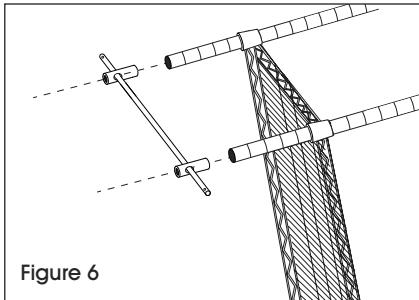

Figure 6
2. Insert the axle through both of the post inserts. Using a rubber mallet, tap the post inserts into the posts on the end of the unit that has the handle. Alternate taps between both inserts until inserts are flush with the posts. (See Figure 6)